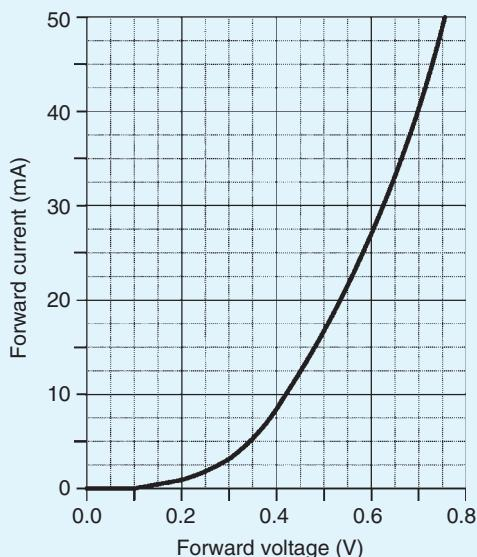

Figure 11.13
- The graph shown in Fig. 11.13 was obtained during an experiment on a diode. (a) What type of diode is this? Give reasons. (b) Determine the forward current for a forward voltage of 0.5 V. (c) Determine the forward voltage for a forward current of 30 mA. (d) Determine the resistance of the diode when the forward voltage is 0.4 V.